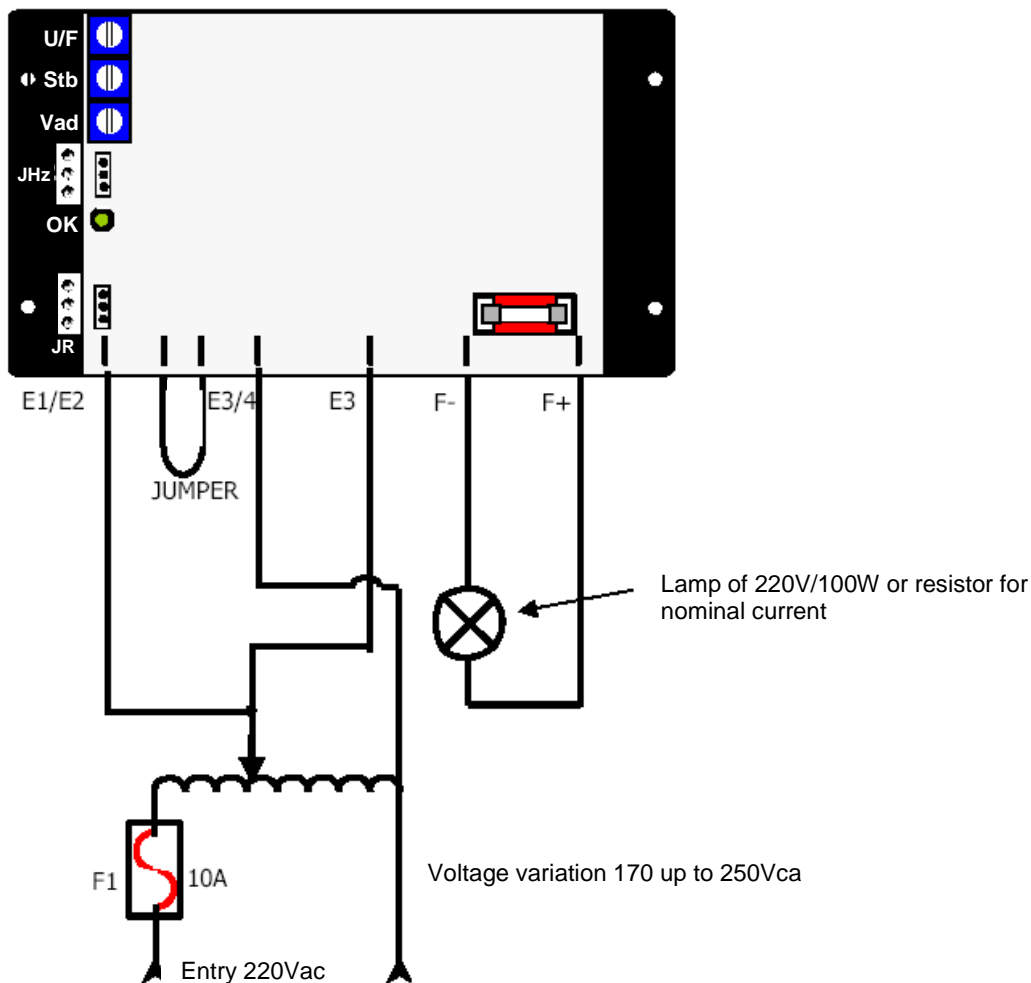

Figure 6: Regulator connection without generator
1. The lamp voltage must be the same voltage applied on the input. The fig. 6 shows an example using a 220V/100W lamp.